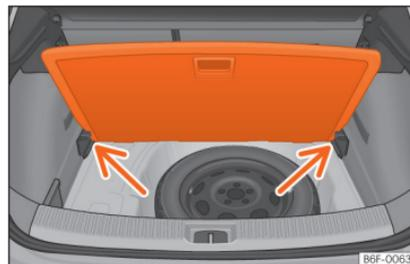

Fig. 111 Variable luggage compartment floor: inclined position.
- Rest the floor on its housings »» Fig. 111 (arrows).